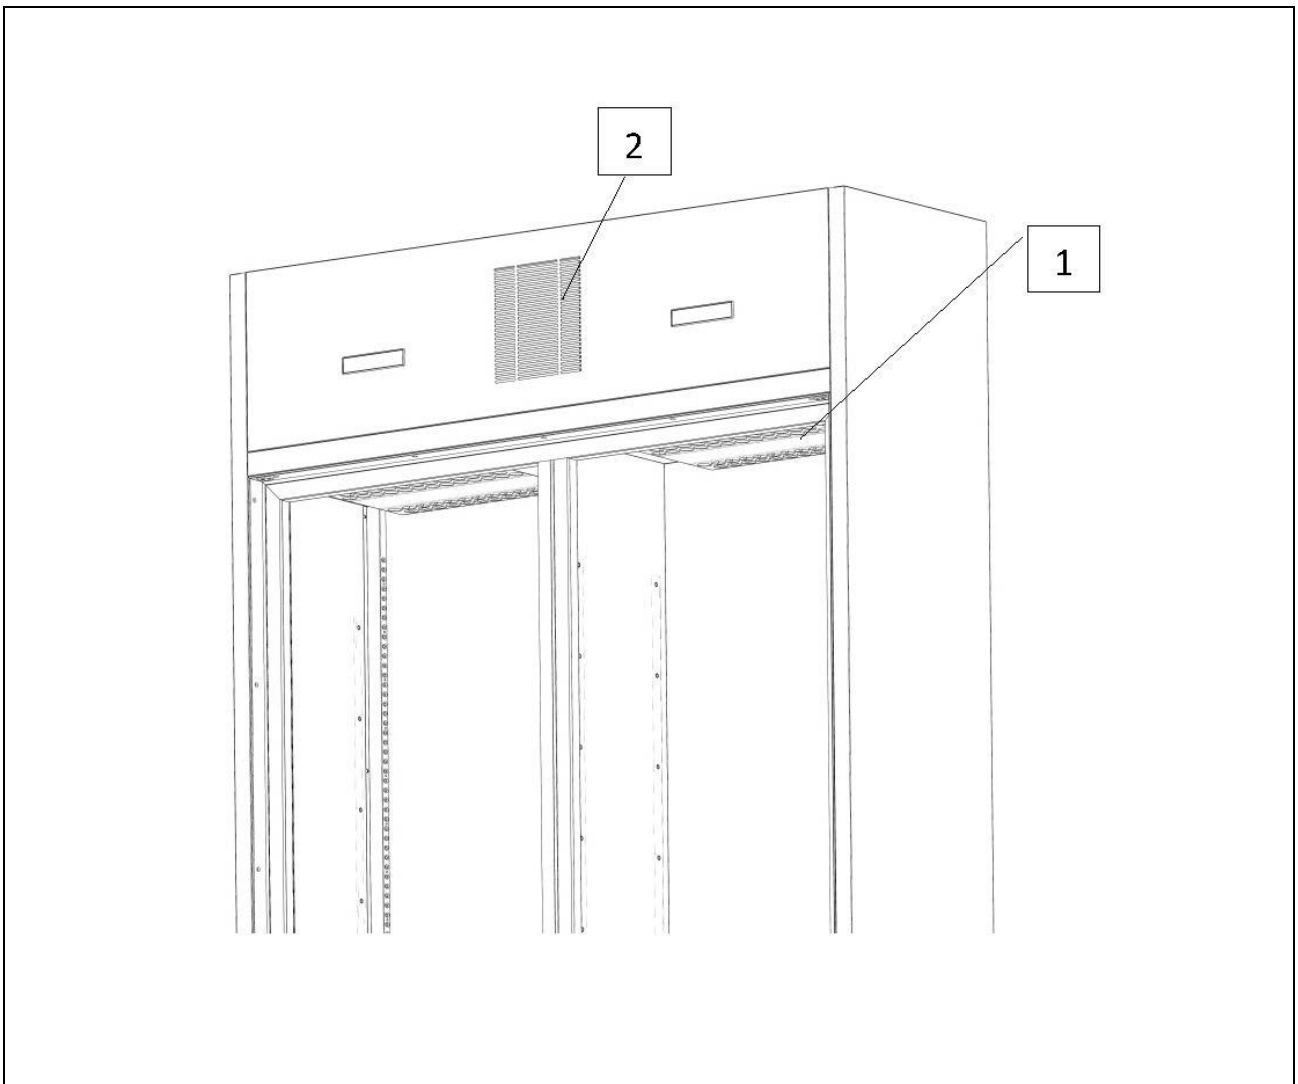

Fig. 6
- grilles covering the cooling fans (ref. 1 fig. 6);
- grilles covering the condenser unit (ref. 2 fig. 6).